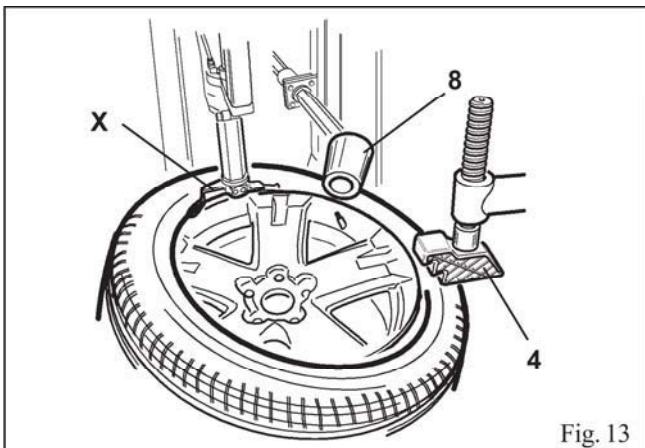

Fig. 13
- Follow standard proceedings for tire final removal and use the bead-lifting disks for keeping the tire at the same level of rim's groove (fig. 12). This will facilitate tire beading positioning on the tool by means of the bead-lifting (fig. 13).
- Position the roller (8) and the bead pressing tool (4) at the right side of the mounting head (X) in a way that tire upper bead stays at the same level of rim's groove (fig. 13);